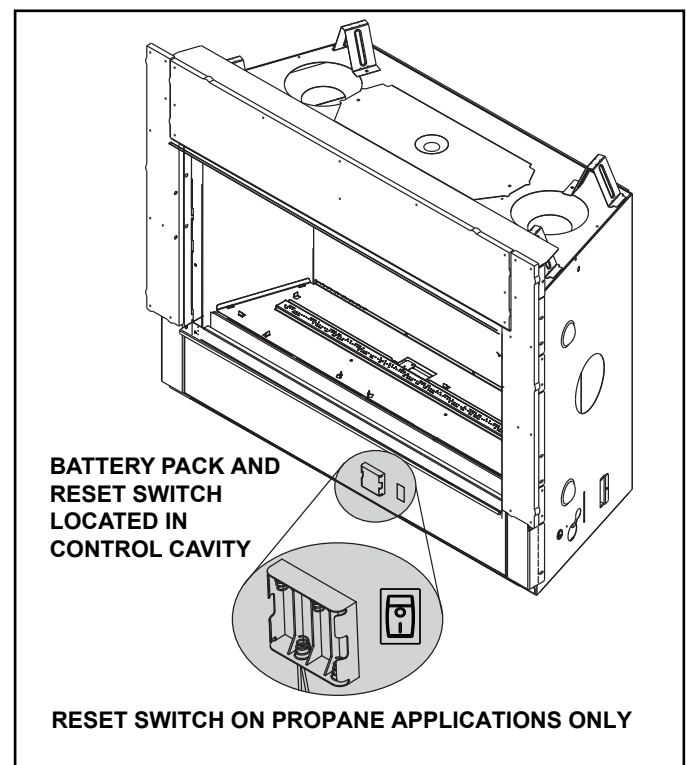
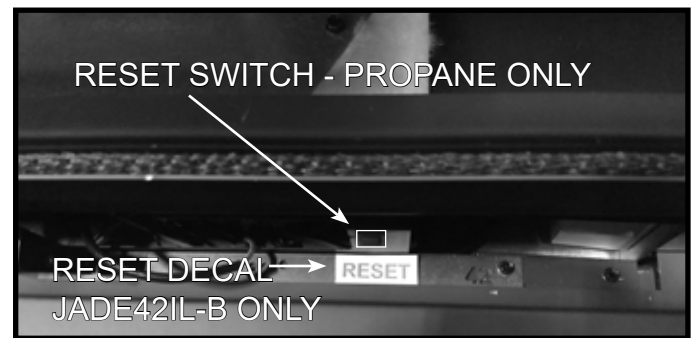

Figure 3.6 Battery Pack Location/Control Cavity
Figure 3.8 Reset Switch Location (Decal on JADE42IL-B Only)
The IntelliFire Touch® intermittent pilot ignition system comes with a battery backup system that enables the system to operate in a power outage. The system offers seamless transition from household AC power to battery backup. A factory-installed battery pack is located in the control cavity of the appliance. See Figure 3.6. Battery longevity and performance will be affected by long term exposure to the service temperatures of this appliance.
1. The battery pack is located in the control cavity of the appliance. To access the control cavity of the appliance Remove the decorative barrier front and glass assembly. See Section 4 for instructions on glass assembly removal. See Figure 3.6 for location of battery pack.
2. Locate the battery pack and remove it from the control cavity. It is held in place by hook and loop fastener. Insert four AA cell batteries. Battery polarity must be correct or module damage will occur. See Figure 3.6. A complete wiring diagram is included in the Electrical section of the appliance Installation Manual.
For propane applications, (JADE42IL-B) the appliance has a hard lockout and the IFT-ECM must be reset. This appliance has a reset switch located inside the control cavity for propane applications. See Figure 3.8 for approximate location.
The JADE42IL-B appliance has a reset switch located inside the control cavity. See Figure 3.6 and Figure 3.8 for approximate location.
- Locate reset switch inside the appliance. See Figure 3.8. Hold reset switch down for one second and release. A “beep” will signal module is reset.